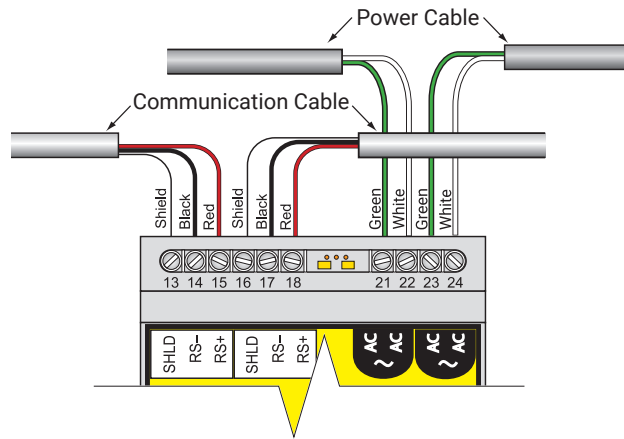

Figure 3. Power and Telemetry Connections
TTSIM-2 communicates all alarm and status messages via RS-485 shielded twisted pair telemetry. Two of the four conductors in the power/telemetry cable are used for telemetry and the other two wires may be used to provide the supply voltage. Alternatively, separate wiring may be used for the supply voltage, as shown in Figure 3.
- Strip the primary wires to expose approximately 6 mm (1/4 in) of conductor and make the following connections: (see Figure 3)